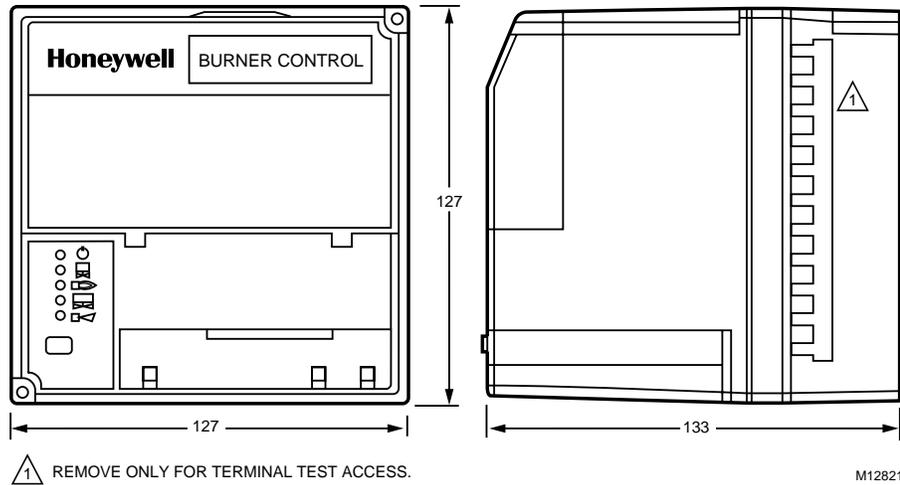

Fig. 1 Mounting dimensions of relay module and wiring subbase in millimeters only.
- Five sequence information light emitting diodes (LED)—with symbols for Power, Pilot, Flame, Main and Alarm (see Fig. 1).
See Fig. 1 and 2.